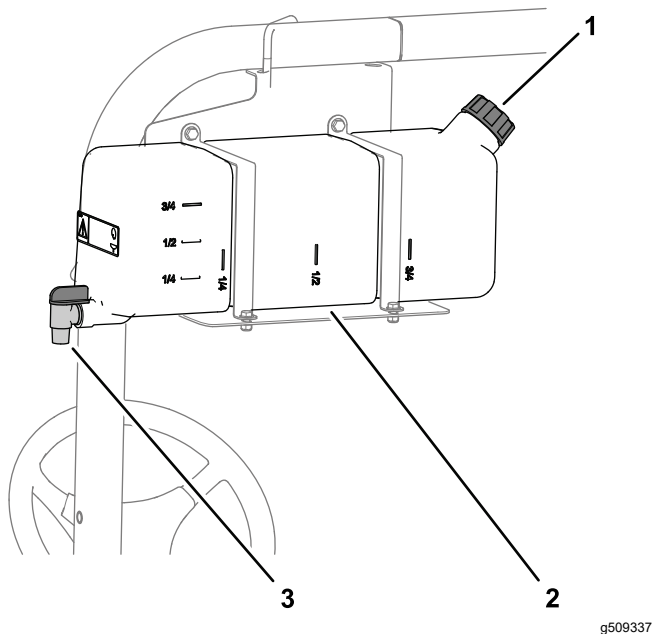

Figure 17
- To fill the tank, unscrew the cap at the top of the tank, fill the tank with fresh water, and install the cap (Figure 17).
- To open the fresh-water tank spigot, turn the lever on the spigot (Figure 17).